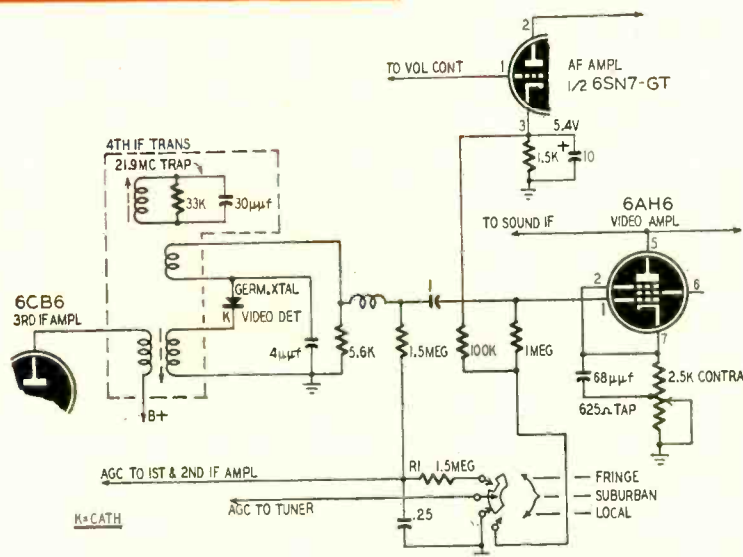

Fig. 1—Sensitivity-control switching in Motorola TS-400A TV chassis.
i.f.-amplifier stages and through a 1.5-megohm isolating resistor (R1) to the r.f.-amplifier and mixer grids in the tuner. In the SUBURBAN position (that shown in Fig. 1) a.g.c. voltage is removed from the tuner, and the r.f.-amplifier and mixer grids are returned to ground. The FRINGE position is used when the incoming signals are weak, and the set must operate with maximum sensitivity. This grounds R1 and lowers the a.g.c. voltage on the i.f.-amplifier tubes to one-half the value applied in the LOCAL and SUBURBAN positions. In this position the video amplifier grid resistor is returned to ground to improve noise limiting ahead of the sync take-off point. The area selector control should be adjusted to the position which gives the clearest and most stable picture on all active channels.
MANY modern television sets have auxiliary controls on the back for adjusting the sensitivity for optimum performance in weak-, medium-, and strong-signal areas. Fig. 1 shows the area-control circuit used in the Motorola TS-395A and TS-400A chassis. Slightly different versions are used in other late Motorola receivers. The LOCAL, SUBURBAN, and FRINGE settings adjust the sensitivity of the receiver for strong, medium, and weak signals, respectively.